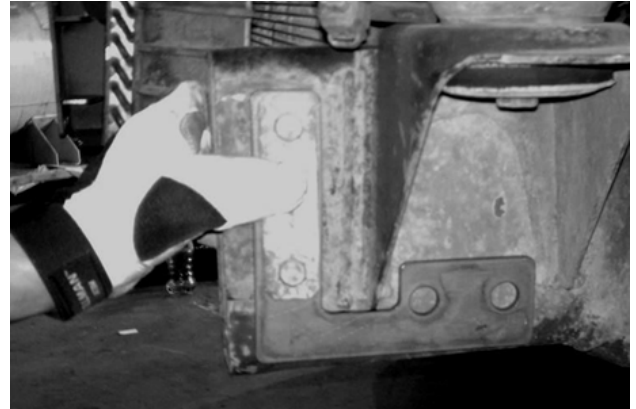

Figure 1
1. Install drilling template using the OEM bolt strip (Figure 1). Note: From now on install the bolt strip from outside to in.
2. Using a center punch mark the two holes toward the rear of the truck (Figure 1).